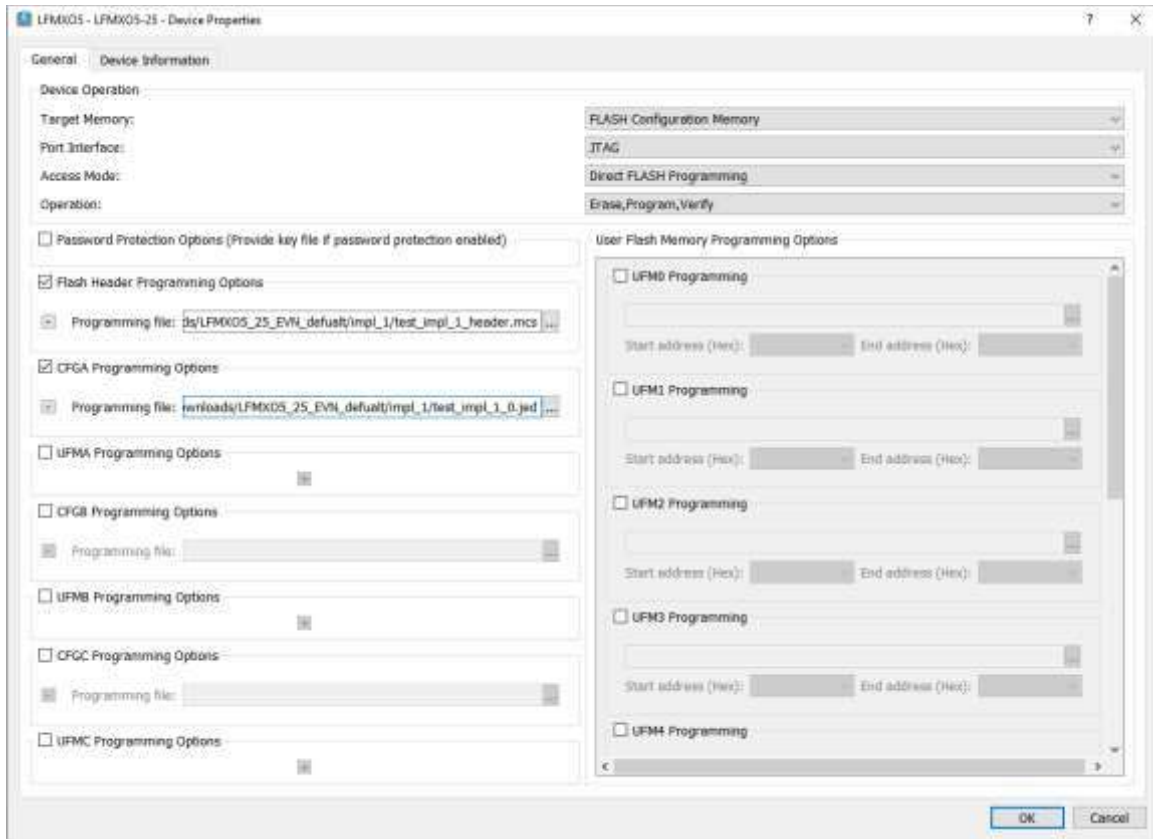

Figure 9.5. Radiant Programmer – Device Properties
- Open the **Device Properties** dialog box by double click Operation column, as shown in Figure 9.5. Select the following options: